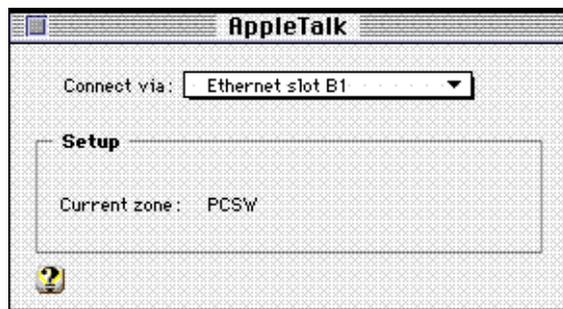

Figure 4.21 - Open Transport AppleTalk Control Panel
2. Use the **AppleTalk** control panel (found under the **Apple** menu) to select the slot containing the **FORE** ATM driver (denoted by **Ethernet slot B1** in Figure 4.21). Note that the **ATM** adapter is listed as an **Ethernet** adapter because it is using **LAN Emulation** to emulate an **Ethernet** connection.